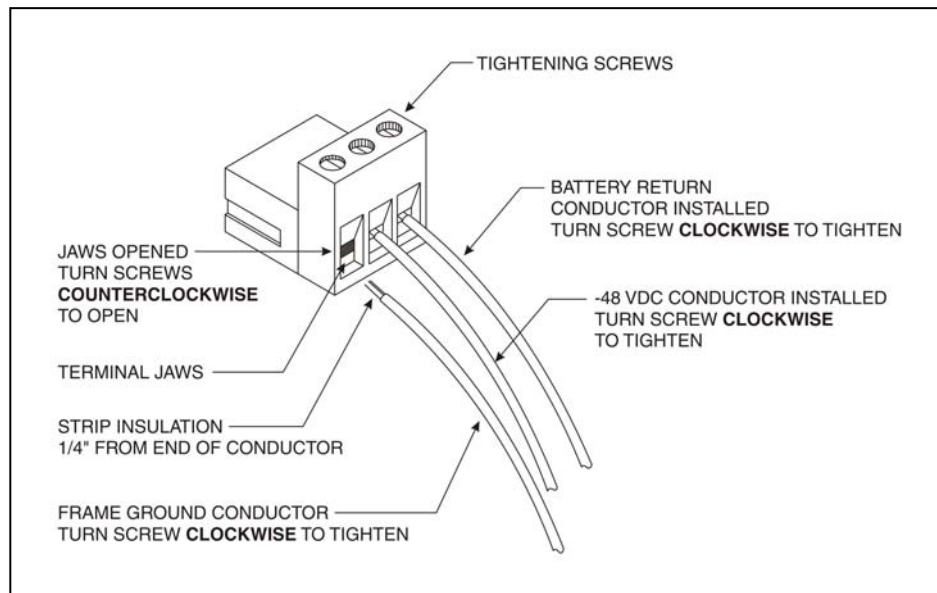

FIGURE 3-4: 289H UTILITY CARD POWER CONNECTOR WIRING
4. Using a small, straight-blade screwdriver, unscrew the terminal jaws on the Utility Card's power connection block. The terminal jaws, which are used to lock the conductors in place, are shown enlarged in FIGURE 3-4. When turned counterclockwise, the adjustment screws on the top of the block open the jaws so that the power, return and ground leads may be inserted.
6. Insert the other conductors. The +48 volt return conductor is installed above the power lead in the top terminal jaw. The frame ground (FGND) is installed in the bottom jaw. Both of these connections are shown in FIGURE 3-4.